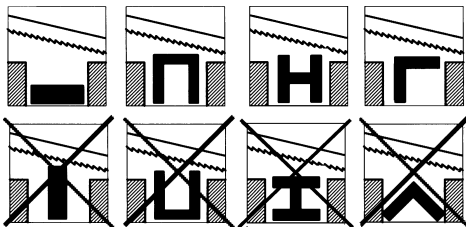

Fig. 11
4.5 POSITIONNEMENT DE LA PIECE DANS L'ETAU (Fig.11)